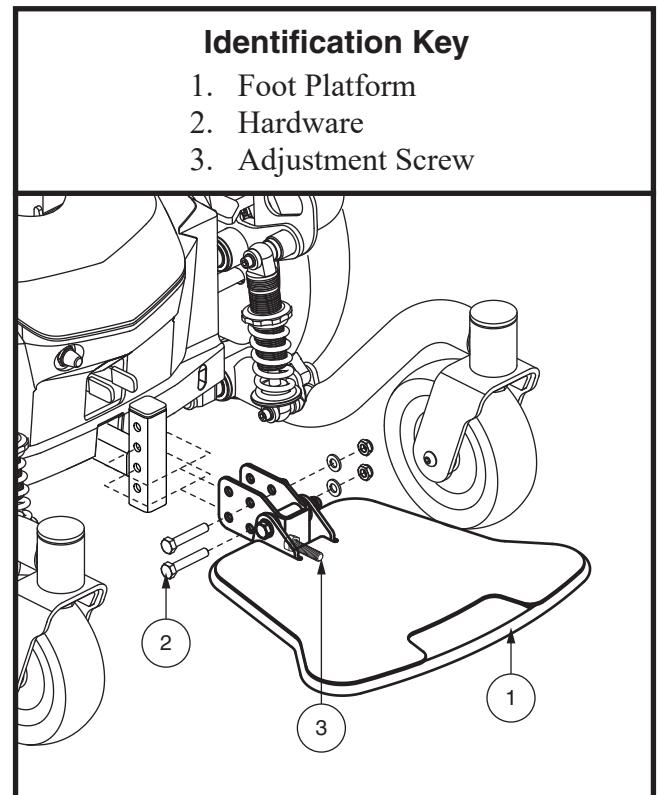

Figure 10. Foot Platform Adjustment
1. Remove the hardware from the foot platform bracket. **See figure 10.**
You can adjust the angle of the foot platform with a hex key. See figure 10.